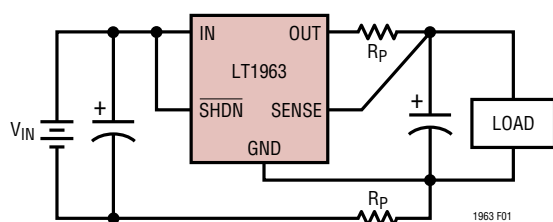

Figure 1. Kelvin Sense Connection
**SENSE:** Sense. For fixed voltage versions of the LT1963 (LT1963-1.5/LT1963-1.8/LT1963-2.5/LT1963-3.3), the SENSE pin is the input to the error amplifier. Optimum regulation will be obtained at the point where the SENSE pin is connected to the OUT pin of the regulator. In critical applications, small voltage drops are caused by the resistance ( $R_P$ ) of PC traces between the regulator and the load. These may be eliminated by connecting the SENSE pin to the output at the load as shown in Figure 1 (Kelvin Sense Connection). Note that the voltage drop across the external PC traces will add to the dropout voltage of the regulator. The SENSE pin bias current is  $600\mu\text{A}$  at the nominal rated output voltage. The SENSE pin can be pulled below ground (as in a dual supply system where the regulator load is returned to a negative supply) and still allow the device to start and operate.